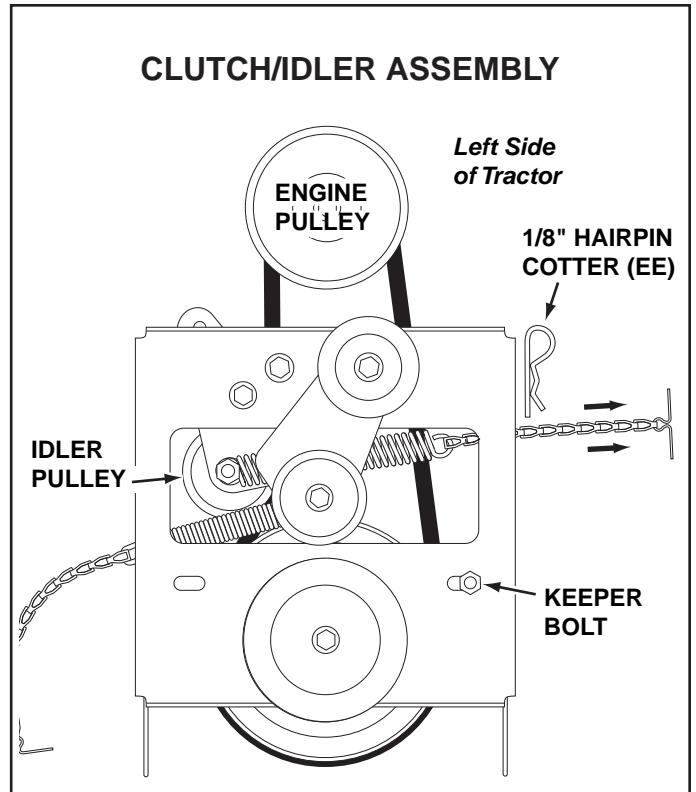

FIGURE 46
STEP 47: (SEE FIGURE 46)
- Place tension on the belt by pulling the left side tensioning chain out as far as the 3/32" hairpin cotter (FF) will allow. Secure the chain in this position by inserting a 1/8" hairpin cotter (EE) through the chain.